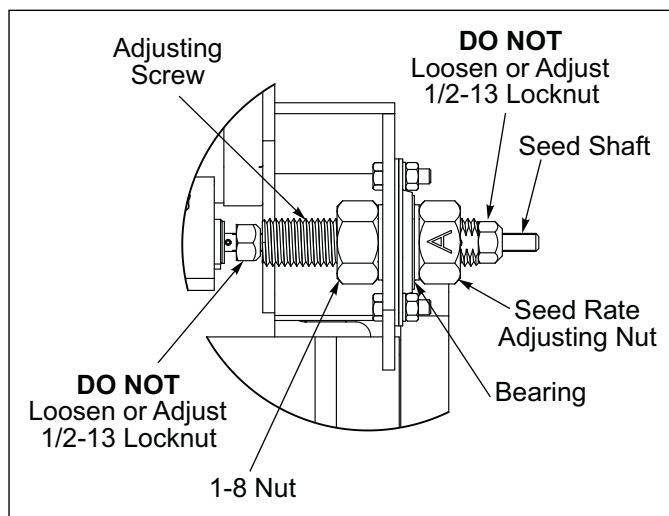

Figure 4-6: Seed Box Seed Rate Adjustment
All Seed Meters must be set the same to ensure seeding uniformity. To check, set the Seed Rate Adjusting Nut to 0-A. The "A" on the Seed Rate Adjusting Nut is positioned over the "0" (the nut covers half of the "0") and snug against the Bearing. **See Figure 4-6.**
1. 1/2-13 Locknuts on both ends of the Adjusting Screw are used to adjust all Seed Meters the same amount. **See Figure 4-6.** To adjust Seed Meters to be closed at "0A", loosen 1/2-13 Locknuts and set Adjusting Screw to "0A". Slide Seed Shaft to close all Seed Meters. Tighten 1/2-13 Locknuts against Adjusting Screw.